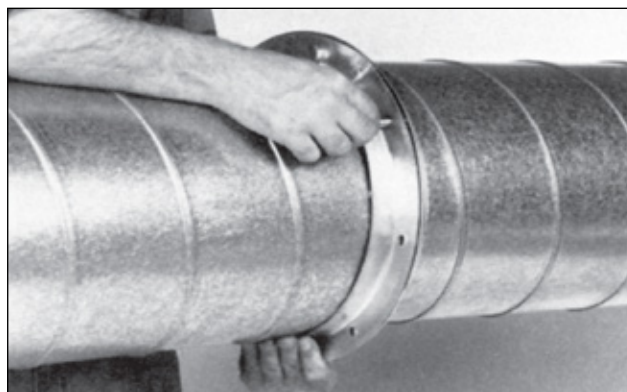

Figure 5. Bolting angle rings together
5. Insert bolts, add washers as required, and start nuts loosely, as shown in Figure 5.